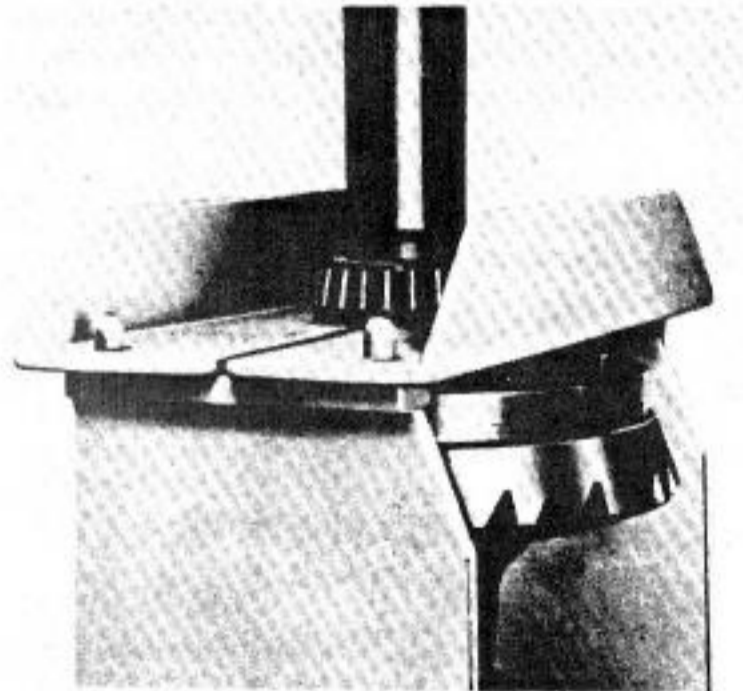

Fig. 11-19. Setup for pressing tapered-roller bearings off differential housing and cover.
1. Press the tapered-roller bearing inner races off the differential housing and cover, as shown in Fig. 11-19.